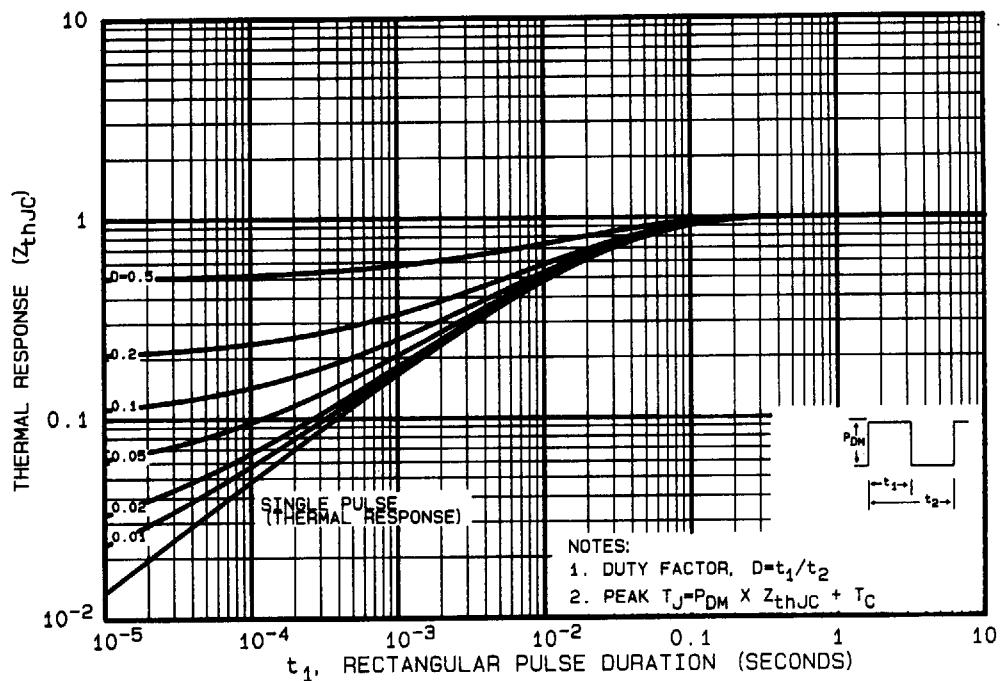

Fig. 9 — Maximum Effective Transient Thermal Impedance, Junction-to-Case Vs. Pulse Duration
① Repetitive Rating; Pulse width limited by maximum junction temperature (see figure 9)